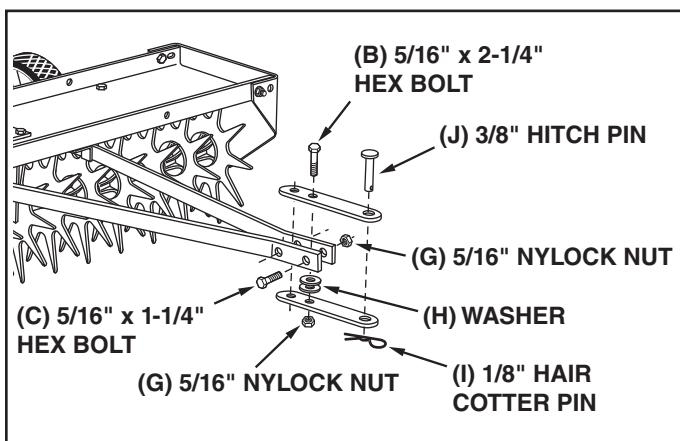

FIGURE 5 FRONT VIEW
8. Turn the aerator right side up and assemble the front ends of the hitch arms together using two 5/16" x 1-1/4" hex bolts (C) and 5/16" nylock nuts (G). **Do not tighten yet.** See figure 5.
9. Assemble the two hitch brackets to the top and bottom of the hitch arms using two 5/16" x 2-1/4" hex bolts (B), four washers (H) and 5/16" nylock nuts (G). **Do not tighten yet.** See figure 5.
10. Assemble the 3/8" hitch pin (J) through the hitch brackets and secure it with a 1/8" hair cotter pin (I). See figure 5.